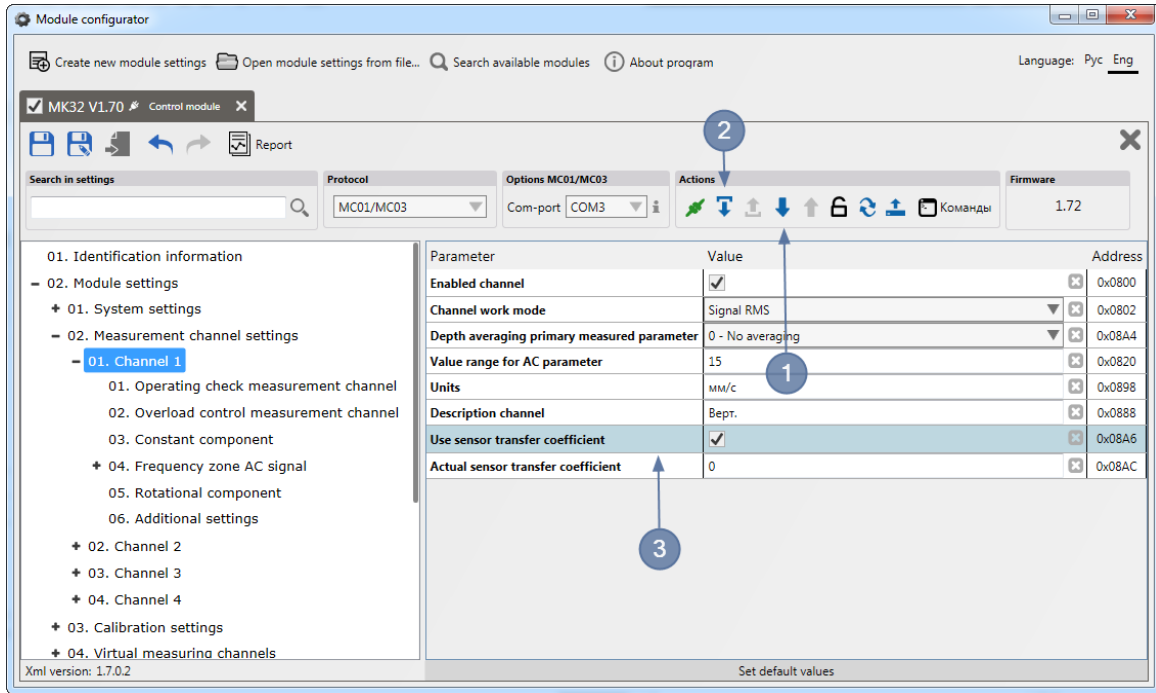

Figure 18 - Reading settings from module
To read all settings from module press **Read all settings from module** button (Figure 18, item 1). To read settings from module only for current selected branch press **Read settings from module** button (Figure 18, item 2).
When moving from branch to branch or when changing parameter values, the program compares the displayed values with values in module. Parameters which current displayed value is inconsistent with value in module will be highlighted with color (Figure 18, item 3).